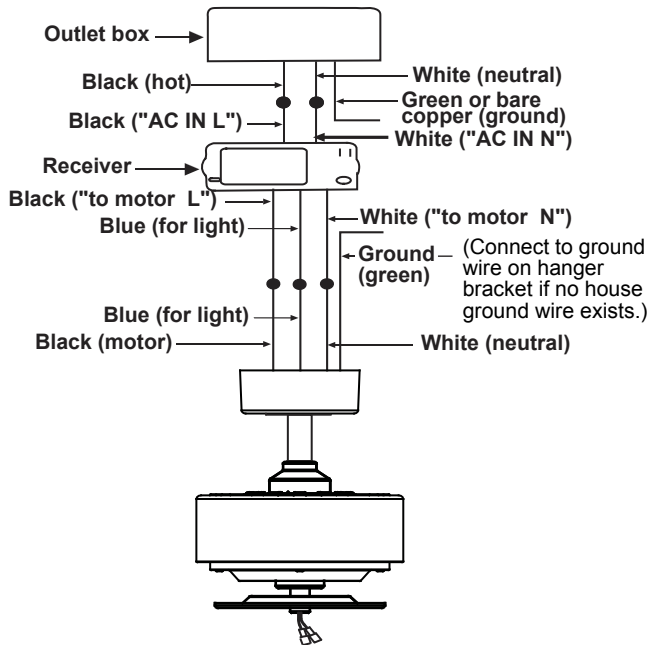

Fig. 15
**Step 2.** Motor to Receiver Electrical connections: Connect the black wire from the fan to the black wire marked "TO MOTOR L" on the receiver. (Fig. 15)
**Step 3.** Receiver to House Supply Wires Electrical Connections: Connect the black (hot) wire from the ceiling to the black wire marked "AC IN L" from the receiver. Connect the white (neutral) wire from the ceiling to the white wire marked "AC IN N" from the Receiver. Secure the wire connections with the plastic wire nuts provided. (Fig. 15)
**Step 4.** If your outlet box has a ground wire (green or bare copper) connect it to the fan ground wires; otherwise connect the hanging bracket ground wire to the mounting bracket. Secure the wire connection with a plastic nut provided. After connecting the wires, spread them apart so that the green and white wires are on one side of the outlet box and black and blue wires are on the other side. Carefully tuck the wire connections up into the outlet box. (Fig. 15)